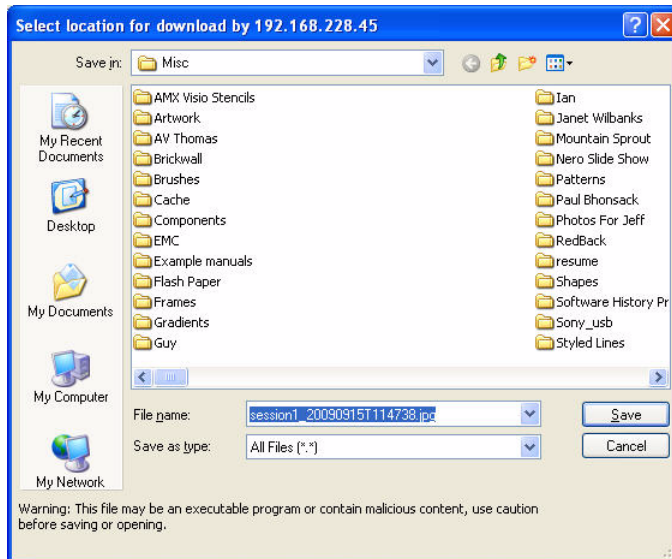

FIG. 118 Select Location for Download dialog
4. The application prompts you to specify a target directory for the image (.JPG) file (FIG. 118):